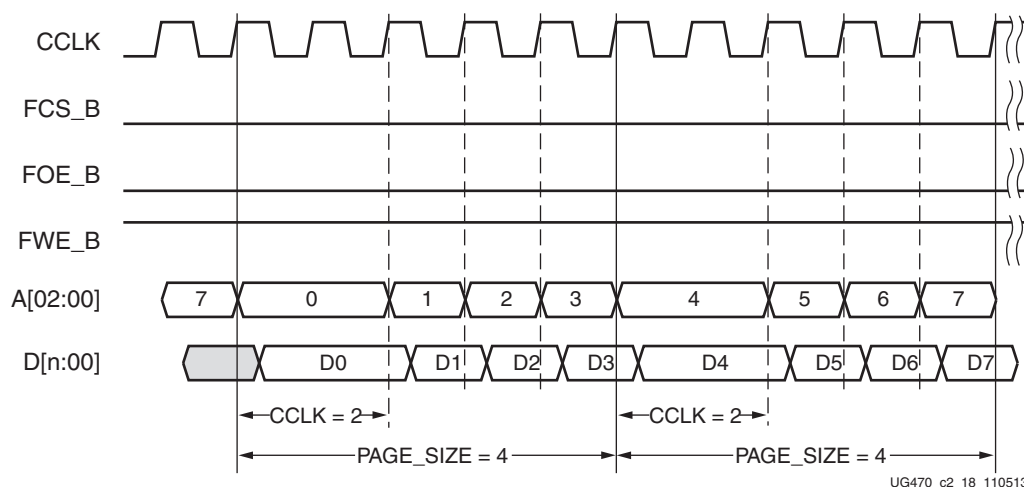

Figure 2-18: BPI Waveforms (Page Size = 4 and First Access CCLK = 2)
The sequence of page-mode operation is controlled by the 7 series FPGA bitstream. After an FPGA reset, the default page size is 1, the first access CCLK is 1, and the master CCLK is running at slowest default frequency. The COR0 register contains master CCLK frequency control bits (see Configuration Options Register 0 \(01001\), page 111). The COR1 register contains BPI flash page mode control bits (see Configuration Options Register 1 \(01110\), page 114). After the COR1 register is programmed, the BPI address timing switches at the page boundary as shown in Figure 2-18. When the SWITCH command is received, the master CCLK switches to a user-desired frequency, using it to load the rest of the configuration. See the BitGen section of UG628, Command Line Tools User Guide for details on BitGen options.
Notes related to Figure 2-18:
1. Figure 2-18 shows BPI mode, a page size of 4, and a first access CCLK of 2.